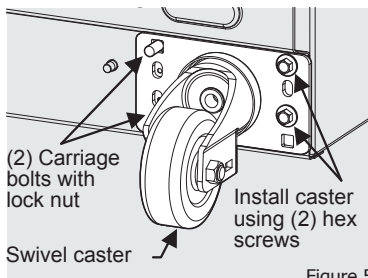

Figure 5
3. On the opposite side of the swivel caster plate, insert 2 carriage bolts through the compressor support rail and swivel caster plate. Use a lock nut on each bolt and tighten securely using a $\frac{9}{16}$ " socket wrench. See Figure 5.